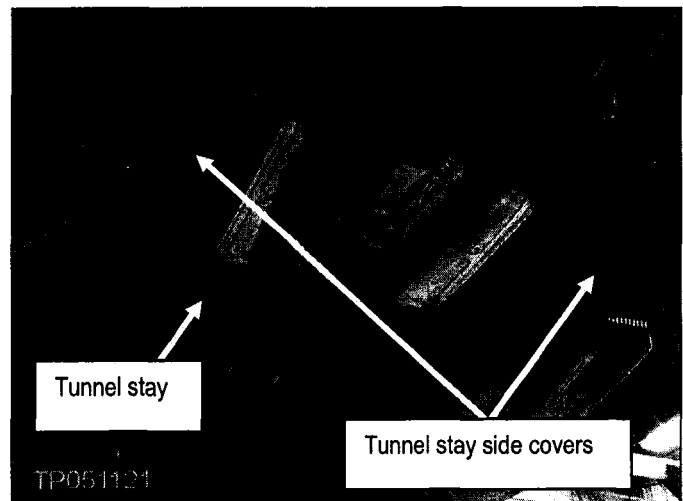

Figure 7
7. Remove nuts and bolts and remove the tunnel stay side covers and the tunnel "stay" (see Figure 7).